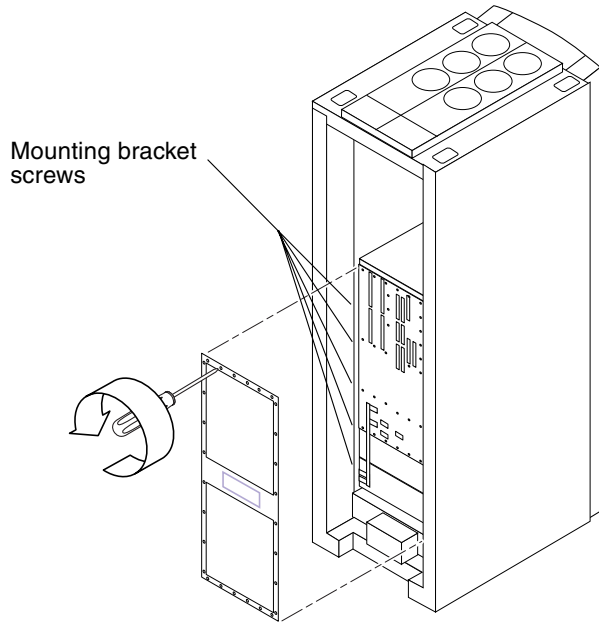

FIGURE 12-14 Rear Screen Panel—Sun Fire 4810 System
5. At the rear of the system, remove the left five screws of the mounting bracket for access to remove the screen (FIGURE 12-14).
6. At the rear of the system, remove the screws securing the rear screen panel to the system (FIGURE 12-14).
5. Replace the screws securing the rear screen panel to the system (FIGURE 12-14).
6. Replace the five screws securing the left mounting bracket to the cabinet (FIGURE 12-14).